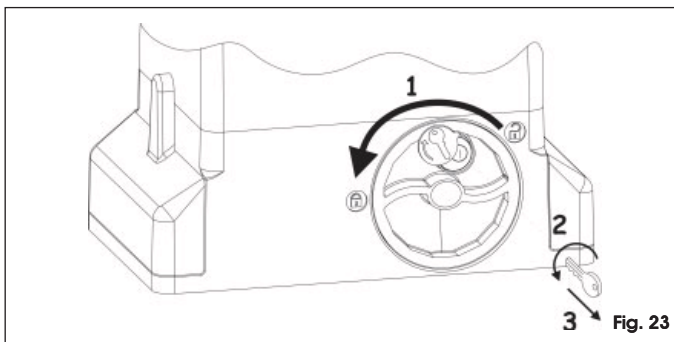

Fig. 23
1. Turn the release system clockwise, until its stop is reached, Fig. 23 ref. 1.
2. Turn the key anti-clockwise and remove it from the lock, Fig. 23 ref. 2 and 3.